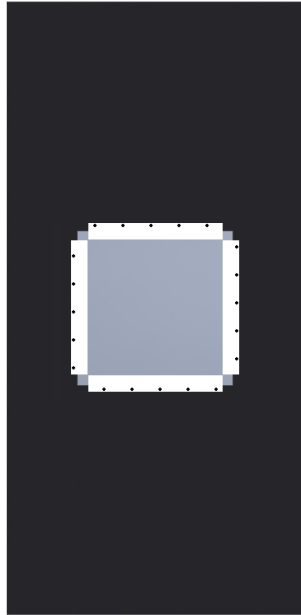

Figure 4
- In part\_3 attach 4 strips as shown in the figure 4. Each black dot represents a nut, bolt, and washer